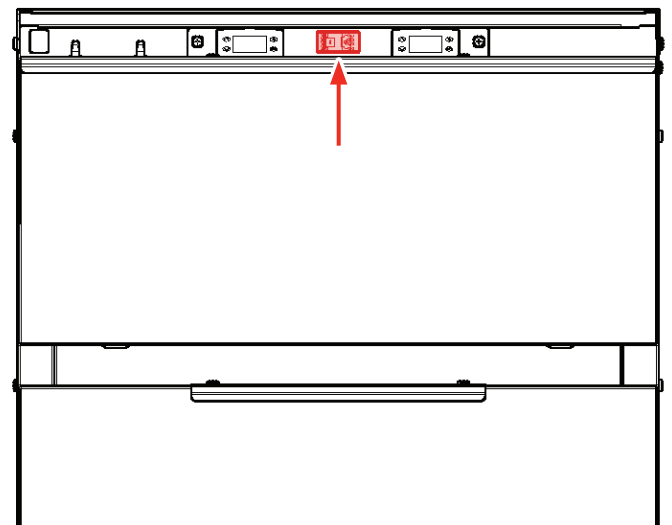

Fig. 6
9. Toggle the power switch ON to start the unit (Fig. 6).